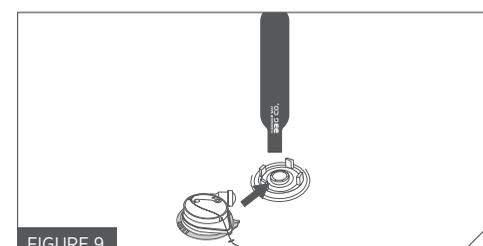
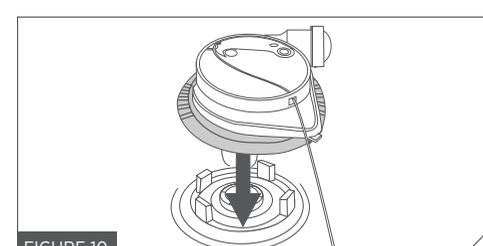

FIGURE 9
FIGURE 10
14. Hold the cylinder in place to keep the inflator body from moving; press (yellow and black) inflator cap onto the inflator body, with the inflator cap's water inlet valve (looks like a small yellow tube) at a 90 degree angle to the cylinder – as long as your cylinder matches the screen print! (Fig. 9 and Fig. 10)